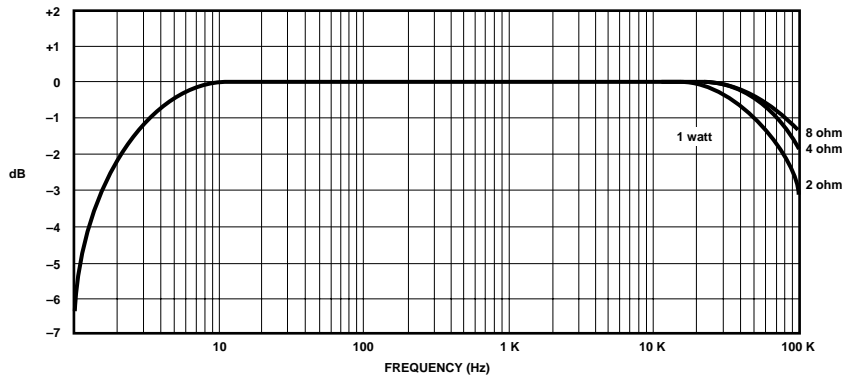

Figure 2.5 Typical Frequency Response
**Frequency Response:** ±0.1 dB from 20 Hz to 20 kHz at 1 watt (see Figure 2.5).